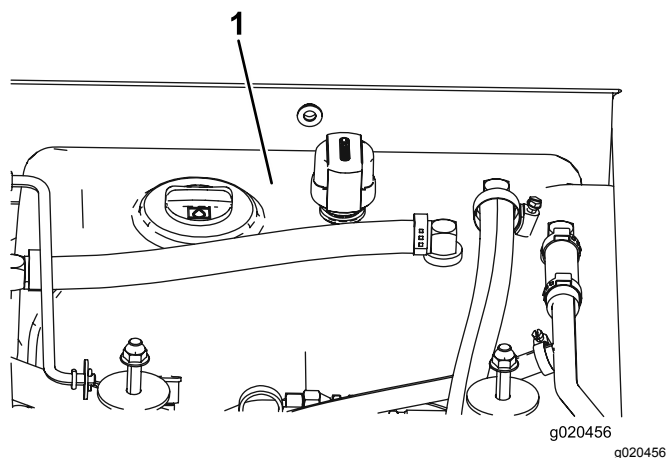

Figure 117
4. Fill the reservoir (Figure 117) with hydraulic fluid; refer to Servicing the Hydraulic System \(page 77\).